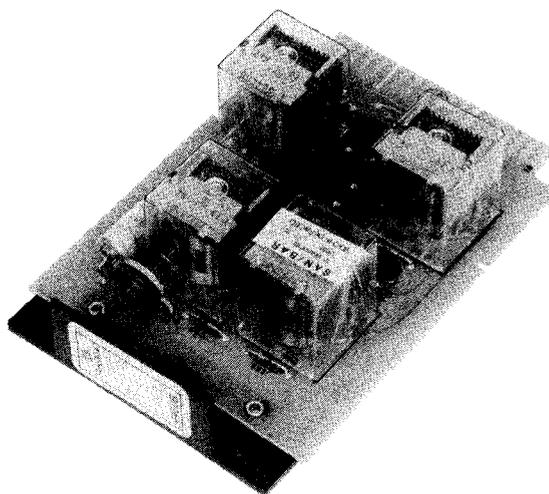

Fig. 1 4450B Card
1.2 The San/Bar 4450B card (Fig. 1) provides for automatic transfer of the ringing signal from a principal telephone set to the attendant telephone set after a variable time-out period. The 4450B also provides for a message waiting signal to the principal telephone station, set by the attendant by use of a dedicated non-locking line key. The two functions are independent and may be used separately, if desired.